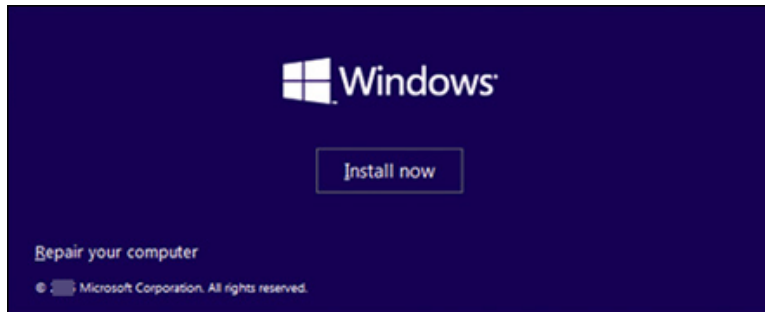

Figure 2-2. Dialog to start the Windows installation
5. When the installation program displays the following dialog (Figure 2-2), click **Install Now**.